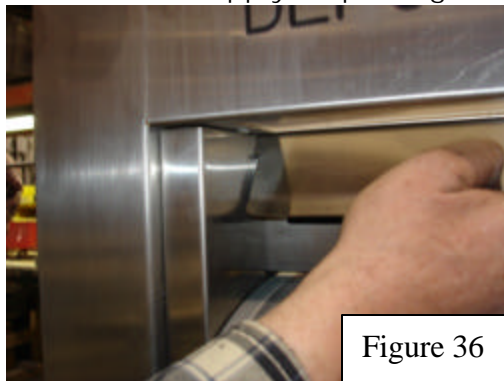

Figure 36
41. Install New Supply Flap using new push on clips (figure 36 and 37)